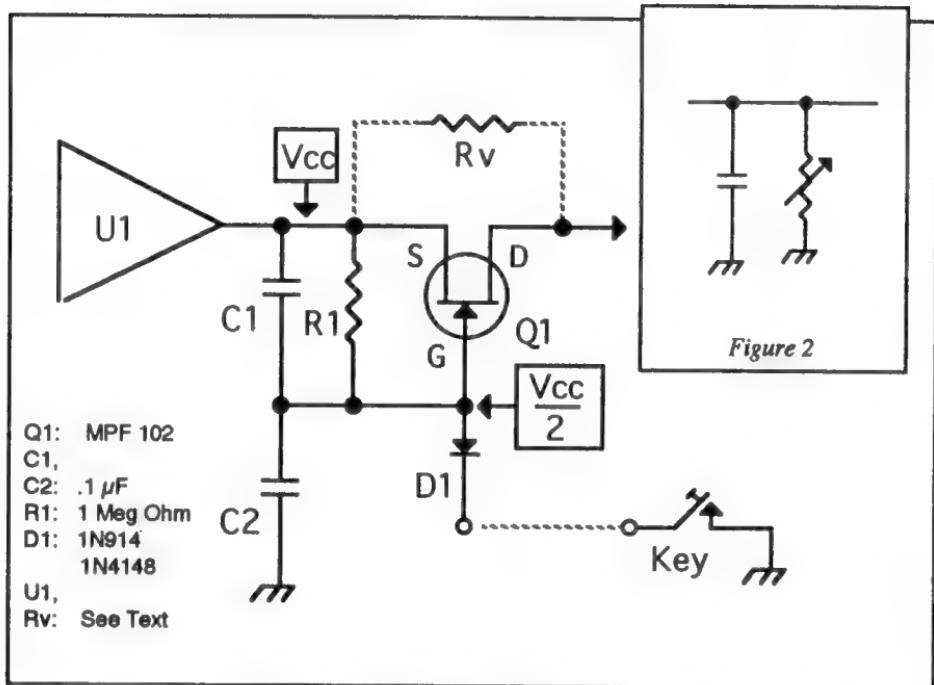

Figure 1
**Circuit Description:** The receiver mute circuit in Figure 1 is found in many kits of popular receiver and transceiver articles published over the last decade. It is comprised of C1, C2, R1, Q1, D1 (and Rv).
both AF (Audio Frequency) and DC voltage. In Figure 1, we use the DC voltage from U1, through bias voltage dropping resistor R1 (a 1 Meg ohm resistor) to bias (turn on) the gate of Q1 just enough to present an acceptable impedance (100-300 ohms) to U1 output and still pass through the received signals. This bias voltage to Q1 Gate is roughly half the Source voltage to Q1 (bias voltage = Vcc 12). When grounding the Q1 gate, such as keying the circuit to ground, you remove the Q1 gate "turn-on" voltage and Q1 opens, (turns off) thus breaking the circuit and preventing signals from passing. Diode D1 allows positive voltage to pass only one direction (to ground when the key is grounded) and prevents unknowns from entering into the circuit. C1 is basically a bypass capacitor (during transmit) that doubles as part of the timing circuit. C2 is primary in determining the on-off timing sequence of this mute circuit. The secret to making this circuit operate properly in your project is to control the on-off timing of Q1 so as "key-up" you do not get a key-click or "pop" or thump in your speaker or phones.
**TIMING CIRCUIT:** In Figure 1, C2 is the primary timing capacitor that must be recharged. At key up, the grounding path through D1 is opened (removed) allowing the voltage to return to the gate of Q1, unless the voltage has a lower resistance path to go elsewhere. C2 (now empty from being grounded) is our alternate, lower resistance route for that short time it takes to charge. For the very short time it takes to refill C2, the bias voltage remains removed from Q1, keeping Q1 turned off (open). After C2 is charged, bias voltage to the gate of Q1 turns it on and the received signals are again allowed to pass.
Finally, what is  $R_V$  in Figure 1?  $R_V$  is a very high value (usually 2 Meg to 5 Meg ohm) bypass resistor that allows a greatly attenuated transmit signal to bypass the Q1 mute circuit into your audio chain, allowing you to monitor your *actually transmitted signal* rather than use a separate sidetone oscillator for monitoring your keying. This circuit resistor does not meet all needs, so it is included strictly to inform rather than offer specific values.  $R_V$  values should be determined experimentally, and the values given above will give you an idea as to where to start your experimentation.